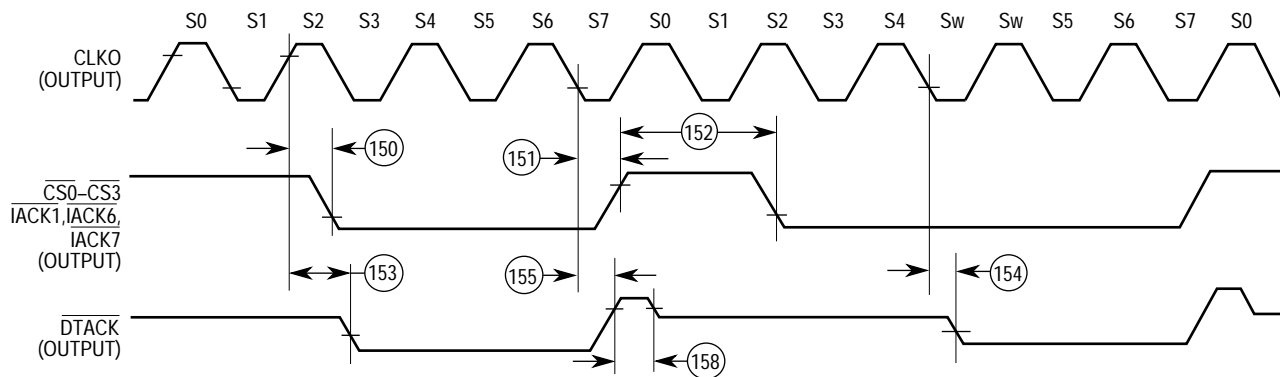

Figure 6-13. Internal Master Chip-Select Timing Diagram
6.13 AC ELECTRICAL SPECIFICATIONS—CHIP-SELECT TIMING INTERNAL MASTER (see Figure 6-13)